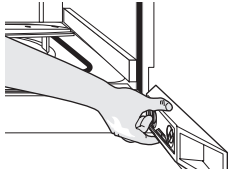

Figure 9b
7. Check that dishwasher is level from front to back by placing level on side of opened door. **See Figure 9b.**